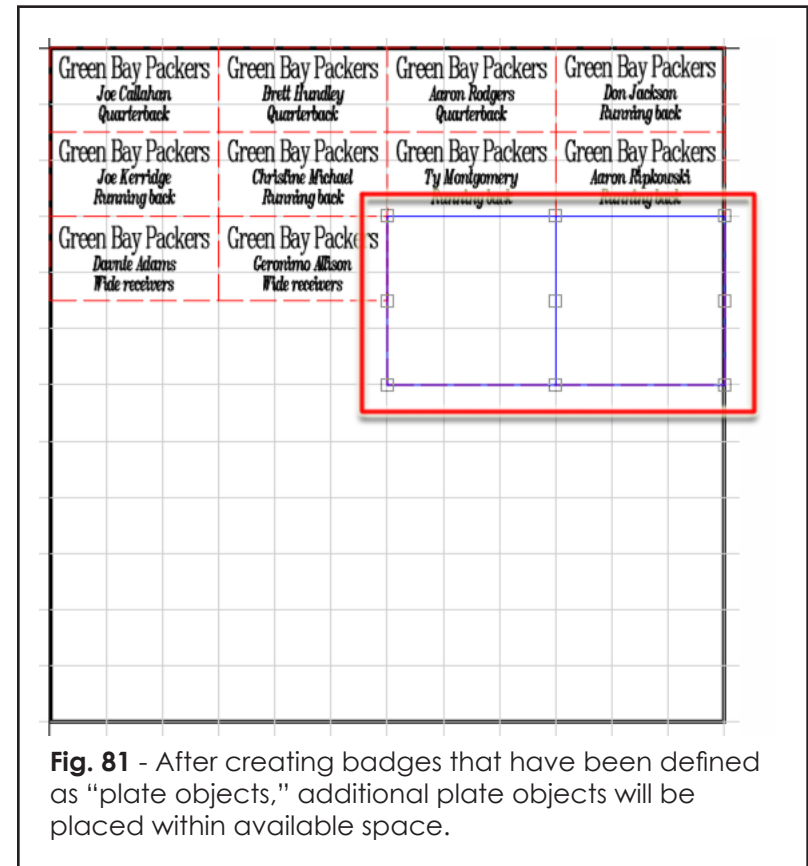

Fig. 81 - After creating badges that have been defined as "plate objects," additional plate objects will be placed within available space.
10. Click **Apply**, and the new plate will be appended within the available space of the last page (Fig. 81).